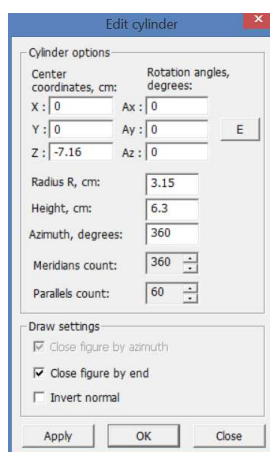

Figure 53.1
7.2 Add the 'detector crystal' element. To do this in the right pane click the button **New Element** and enter the name 'NaI 63x63'. Next choose from the list the type of surface **Cylinder**. In the dialog window **Edit Cylinder** enter the crystal dimensions: Height 6.3cm; Radius of 3.15 cm. The coordinate Z = -7.16 cm (see Fig.53.1). [Section 3.1]